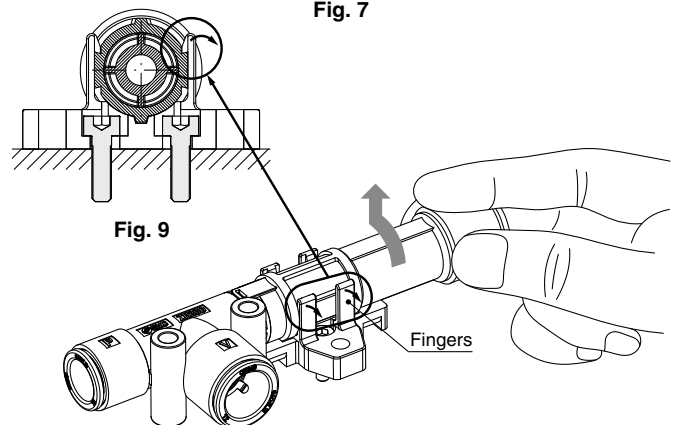

Fig. 8
- 4) To remove the body from the bracket, unclip the fingers (2 pcs.) on one side and pull the ejector upward while rotating the adapter. If the ejector is pulled upward without first unclipping the fingers, it may damage the bracket (Fig. 8, 9). If an increased holding force is required, please contact your SMC sales representative.